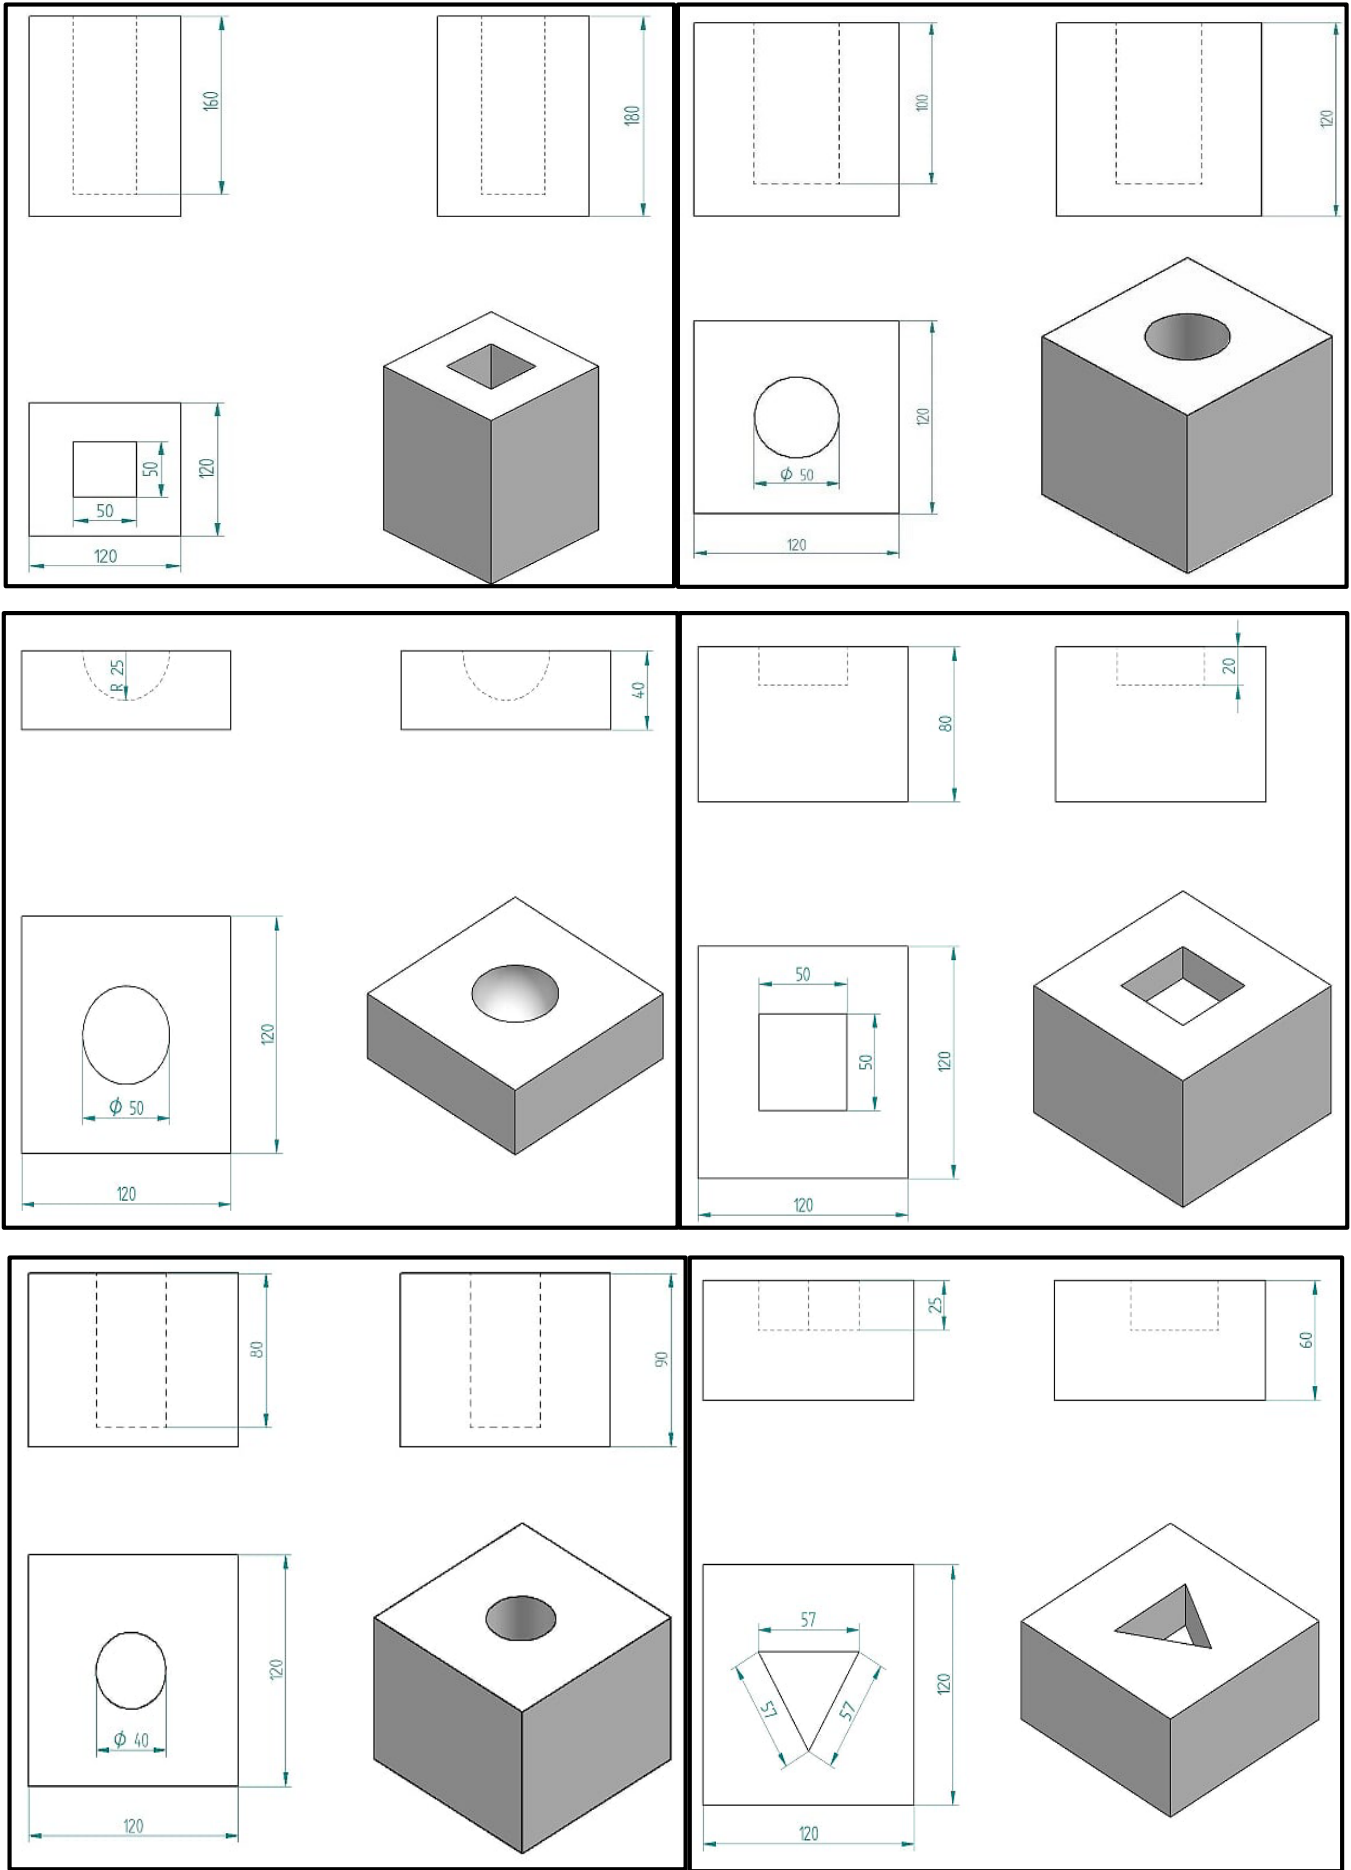

Figure 5- Platform dimensions
4) There is only one platform to use in this competition and its dimensions are given at figure 5. Platform parts will be produced with 3D printer by using PLA material.
5) Platform consists of 10 parts. Dimensions given at figure 5.